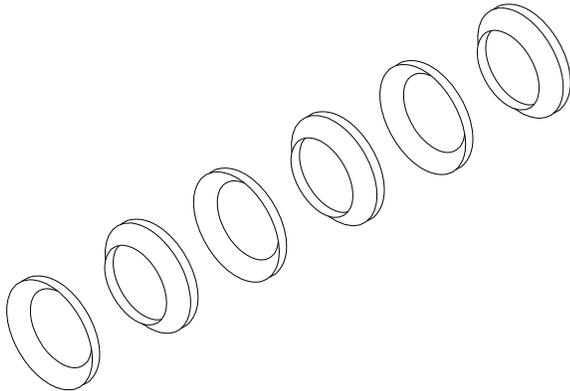

Figure 32: Spring Washer Assembly Sequence
2. Screw the four (4) chevron seals onto shaft, concave sides forward (see Figure 32).
11. Place the six (6) spring washers onto shaft with the first, third, and fifth ones concave (cupped) side forward. The second, fourth, and sixth ones should be cupped side rearward (see Figure 32).
► All six (6) spring washers **MUST** be replaced alternately as shown in Figure 32, or the applicator will malfunction.